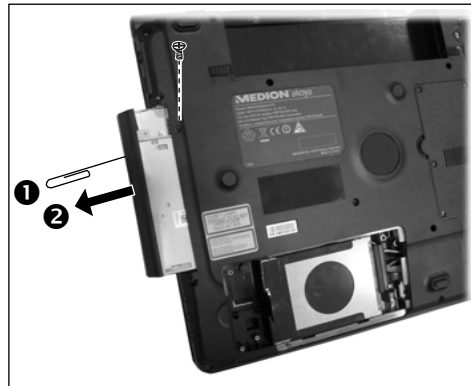

Figure 2-9 Remove the ODD
2. Remove one screw fastening the ODD. (Figure 2-9)
3. Insert a small rod, such as a straightened paper clip, into ODD's manual eject hole (❶) and push firmly to release the tray. Then gently pull out the ODD by holding the tray that pops out (❷). (Figure 2-9)